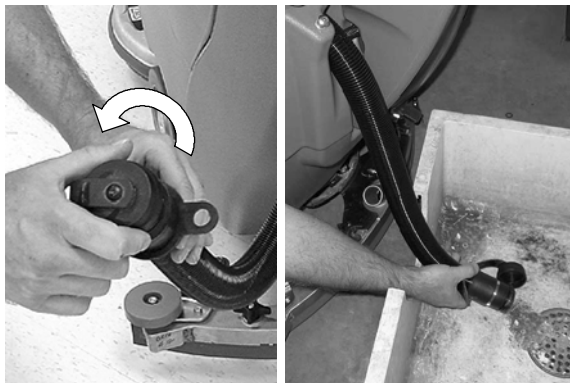

FIG. 28
1. While holding the drain hose upward, remove the cap and lower hose to drain (Figure 28).